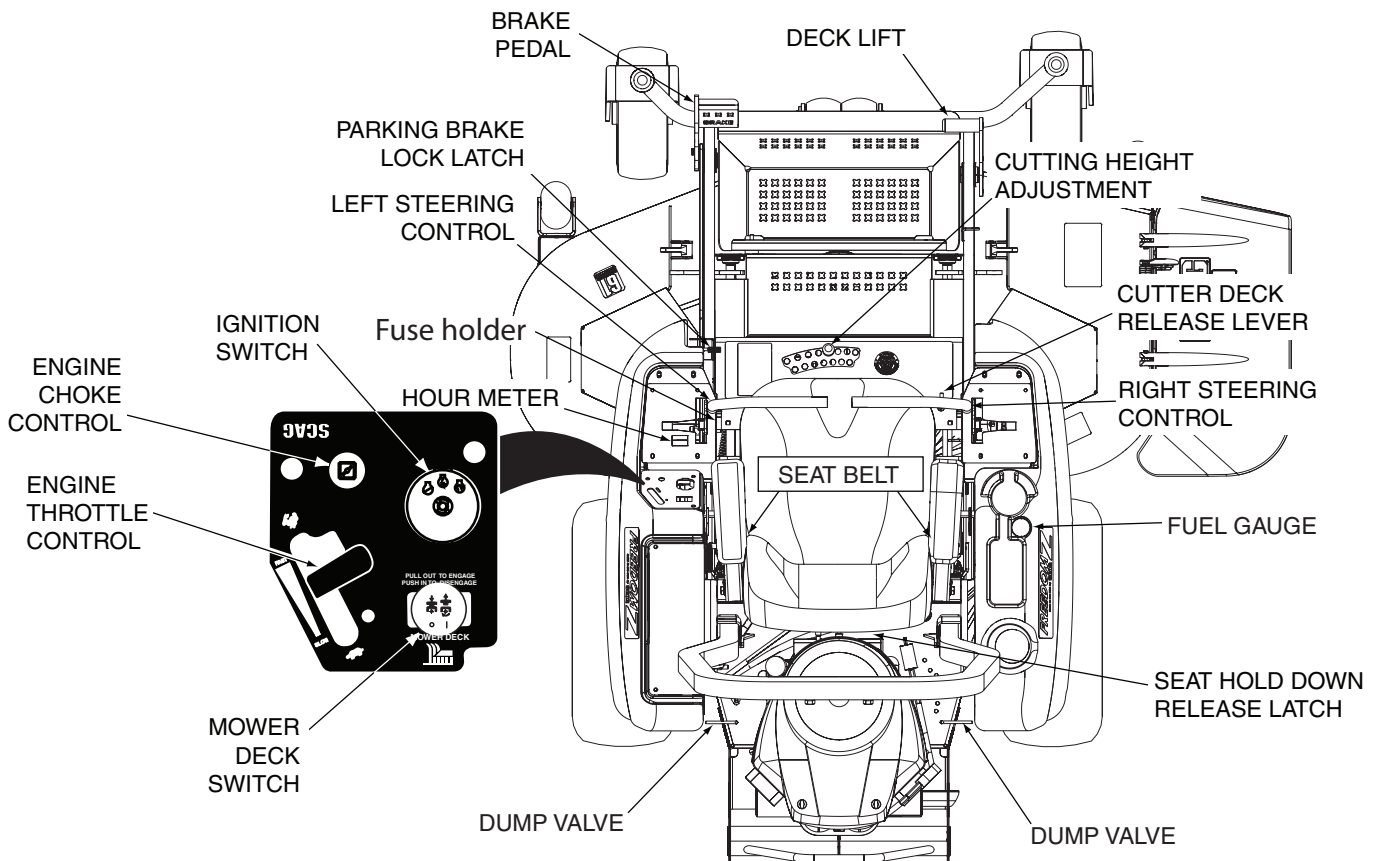
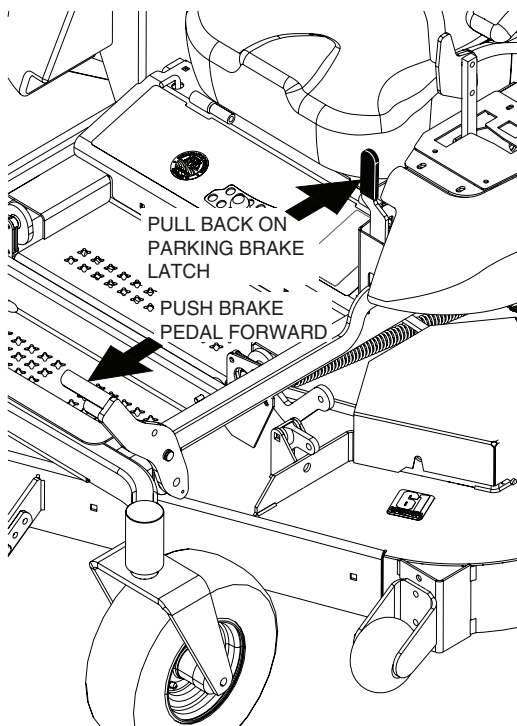
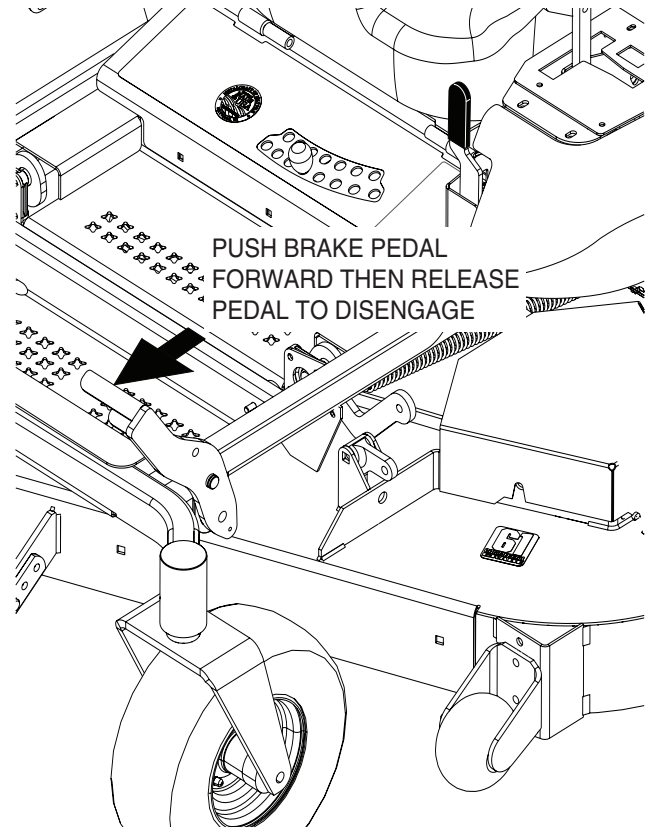

Figure 4-1. Controls and Instruments
Figure 4-2. Engaging the Parking Brake
Figure 4-3. Releasing the Parking Brake
- 1. Ignition Switch (Figure 4-1).** The ignition switch is used to start the engine and has three positions; OFF, ON, and START.
- 2. Mower Deck Switch (Figure 4-1).** Used to engage and disengage the mower drive system. Pulling up on the switch will engage the deck drive. Pushing down on the switch will disengage the deck drive.
- 3. Engine Choke Control (Figure 4-1).** Used to start a cold engine.
- 4. Engine Throttle Control (Figure 4-1).** Used to control the engine speed. Pushing the lever forward increases engine speed. Pulling the lever back decreases engine speed. Full back position is the IDLE position. Full forward is the cutting position.
- 5. Fuel Gauge (Figure 4-1).** Indicates the amount of fuel in the fuel tank.
6. **Hourmeter (Figure 4-1).** Indicates the number of hours the engine has been operated. It operates whenever the engine is running. Has preset maintenance reminders for engine and hydraulic system oil changes. Will start flashing scheduled maintenance 2 hours before preset time and continue flashing until 2 hours after. Automatically resets.
7. **Fuse Holders (Figure 4-1).** Two 20-amp fuses protect the mower's electrical system. To replace fuses, pull fuse out of the socket and install a new fuse.
8. **Left Steering Control (Figure 4-1).** Used to control the mower's left wheel when traveling forward or reverse.
9. **Right Steering Control (Figure 4-1).** Used to control the mower's right wheel when traveling forward or reverse.
10. **Brake Pedal (Figure 4-1).** Depressing the brake pedal applies the brake.
11. **Parking Brake Lock Latch (Figure 4-1).** Used to lock the parking brake in the engaged position. Fully depress the brake pedal and pull the parking brake lock latch back to lock the parking brake in the engaged position. See Figure 4-2. Fully depress the brake pedal forward to disengage the parking brake lock latch, then release the brake pedal to disengage the brake. See Figure 4-3.
13. **Deck Lift Foot Lever (Figure 4-1).** Used to raise and lower the cutter deck.
14. **Cutting Height Adjustment (Figure 4-1).** Used to set the cutter deck at the desired cutting height.
15. **Deck Release Lever (Figure 4-1).** Used to lock the cutter deck in the transport position. Push the foot pedal forward and pull back on the release lever to release the cutter deck for normal mowing.
16. **Seat Belt (Figure 4-1).** Used to secure the operator. Seat belt must be worn at all times during operation.
17. **Seat Hold Down Release Latch (Figure 4-1).** Located behind the seat. Used to secure the seat in the operator's position. Release the latch to gain access under the seat.
Do not travel forward over a curb. The mower will hang up on the curb. Raise the deck and travel backwards over the curb at a 45 degree angle. (See Figure 4-1 and Section 4-1 item 13 for cutter deck raising description.)
To stop the reverse travel, allow the steering control levers to return to the neutral position. If the mower is to be parked, place the handles in the neutral lock position, fully depress the brake pedal and pull back on the parking brake lock latch to engage the parking brake. See Figure 4-2.
5. Fully depress the brake pedal and pull the parking brake lever back to engage the parking brake. See Figure 4-2.